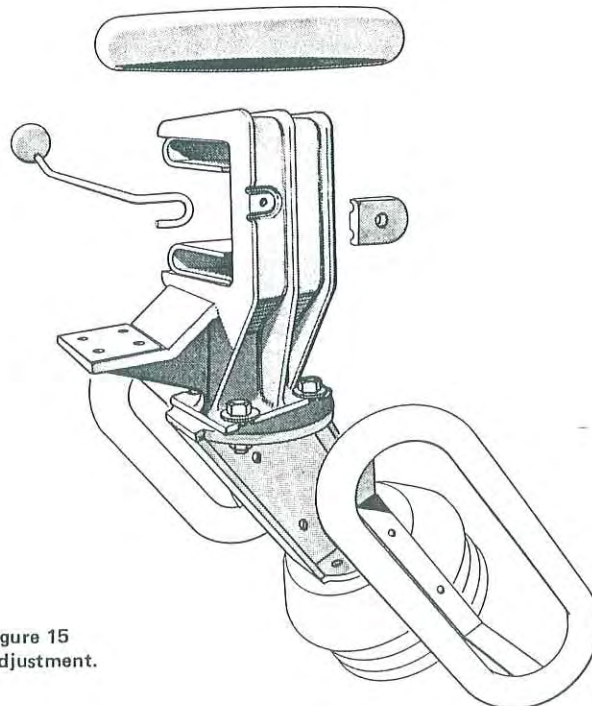

Figure 7 — See figure 15 for arcing horn adjustment.
6. Mount the jaws as indicated in figure 7. This would also be a convenient time to mount the arcing horns, jaw corona shield, and corona rings.